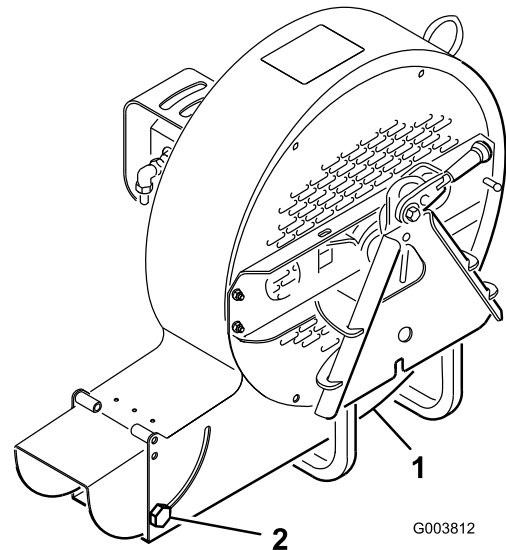

Figure 5
You can adjust the discharge opening (Figure 5) to increase or decrease the air output velocity and volume. Decreasing the discharge opening size increases the velocity. Increasing the discharge opening size decreases the velocity.
1. Loosen the discharge opening deflector mounting screws (Figure 5).